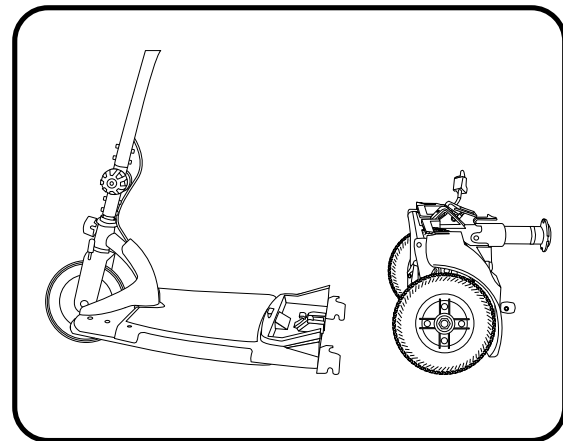

Figure 18. Frame Sections
3. Carefully lift the front section away from the rear section. See figure 18.
1. Position the front and rear sections of your scooter as shown in figure 18.